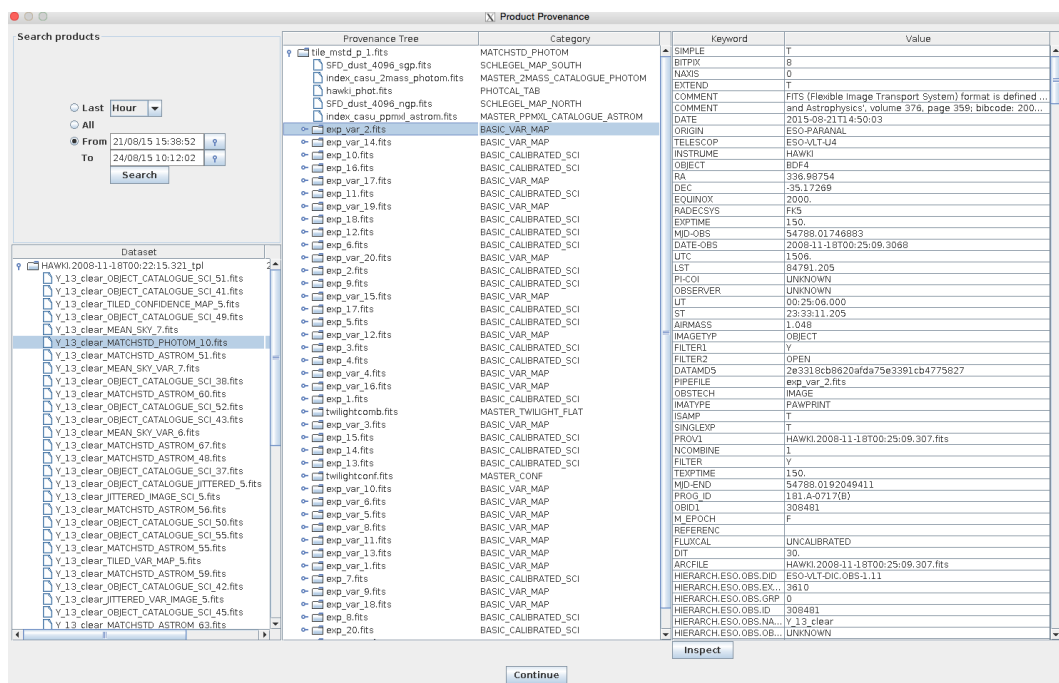

Figure 6.4: The Product Explorer shows all datasets reduced in previous executions together with the full reduction chain for all the pipeline products..
9. Once the reduction of all datasets has finished, a pop-up window called *Product Explorer* will appear, showing the datasets which have been reduced together with the list of final products. This actor allows the user to inspect the final data products, as well as to search and inspect the input data used to create any of the products of the workflow. Figure 6.4 shows the *Product Explorer* window. A full description of the *Product Explorer* will be presented in Section 8.3.3.